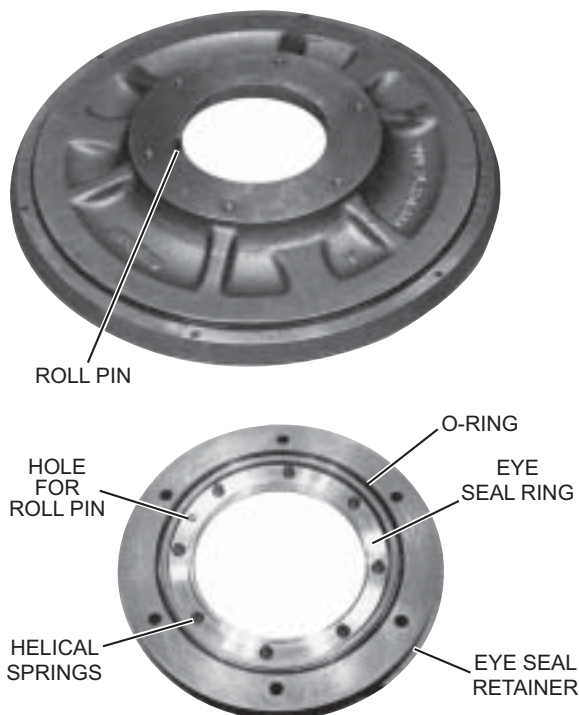

FIG. 59 – EYE SEAL COMPONENTS
2. Remove the eye seal retainer and the eye seal ring from nozzle base plate (see FIG. 59).
3. Place the eye seal ring and retainer into position on the nozzle base plate. Be sure the hole in the eye seal ring fits over the roll pin in the nozzle base plate (see Fig. 59). Insert cap screws and tighten. Check that the seal ring is free to “float”.